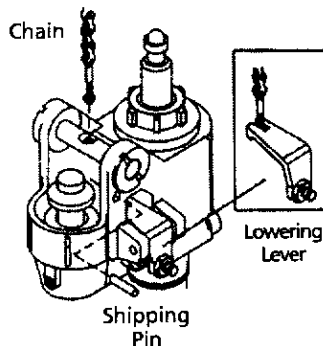

Figure 3 - Lowering Lever
4. Feed chain (included in handle assembly) through hole in handle shaft. Attach chain to lowering lever (See Figure 3).